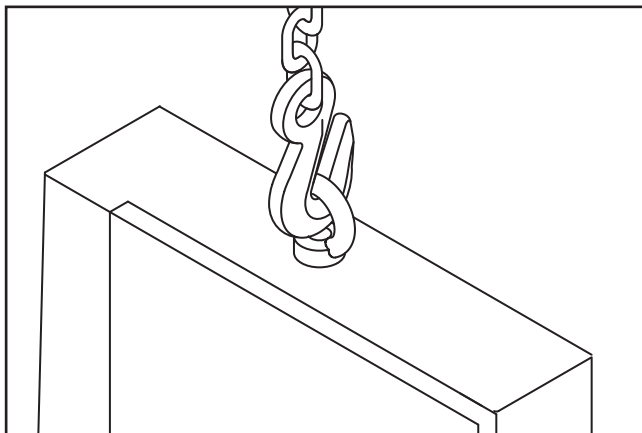

Figure 20. Example of using safety hook and chain to lift bandsaw.
3. Attach the safety hook and chain between the forklift and bandsaw lifting eyebolt (see **Figure 20** for an example).